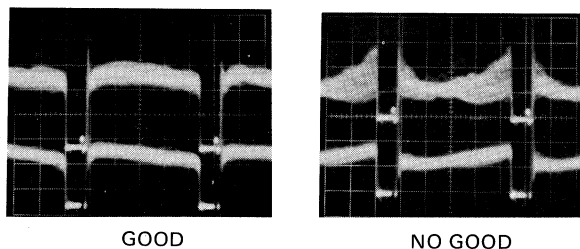

Fig. 4-2-6
- Adjust FOCUS VR15 so that the center portions of R and B signal waveforms at pins 1 and 3 of CN1 become maximum. (Fig. 4-2-6)